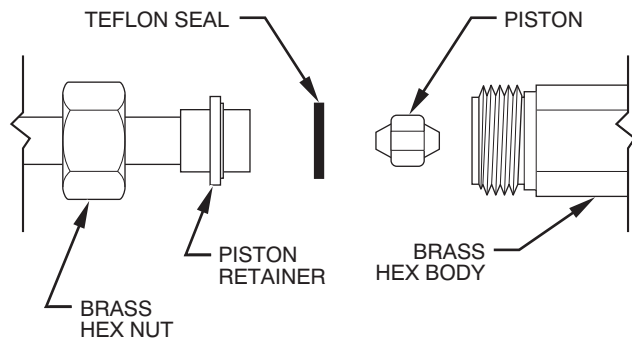

Fig. 26 – Refrigerant Flow-Control Device
2. Recover remaining refrigerant from tubing and coil through gage port on vapor-tube service valve. Disconnect refrigerant (liquid) tube from piston body. (See Fig. 26.)